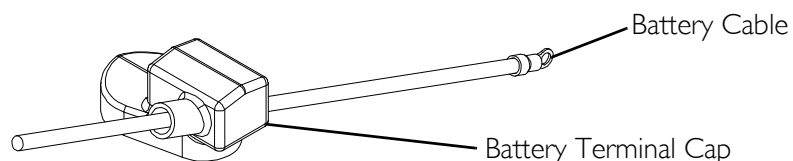

FIGURE 3 Connecting Battery Cables
NOTE: For this procedure, refer to FIGURE 3 and FIGURE 4.
1. Install RED battery terminal cap onto RED battery cable (FIGURE 3).
2. Install GREY battery terminal cap onto BLACK battery cable (FIGURE 3).
7. Slide terminal cap(s) down battery cable(s) and onto battery clamps (FIGURE 3).
3. Slide terminal cap(s) up on the battery cable(s). Refer to FIGURE 3.